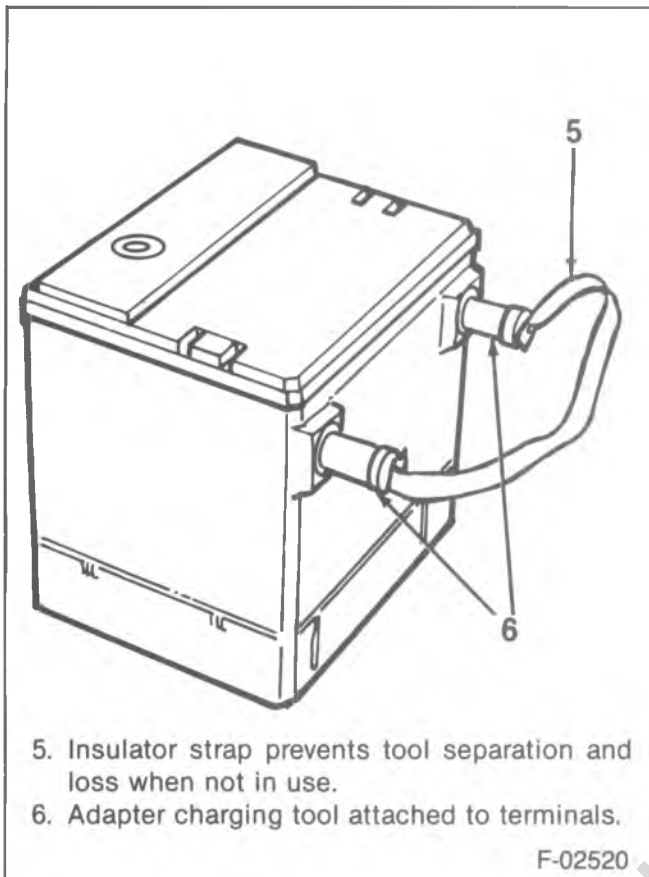

Figure 3—Testing and Charging Terminal Adapter
2. Install adapter AC-Delco ST 1201 or equivalent (figure 3).